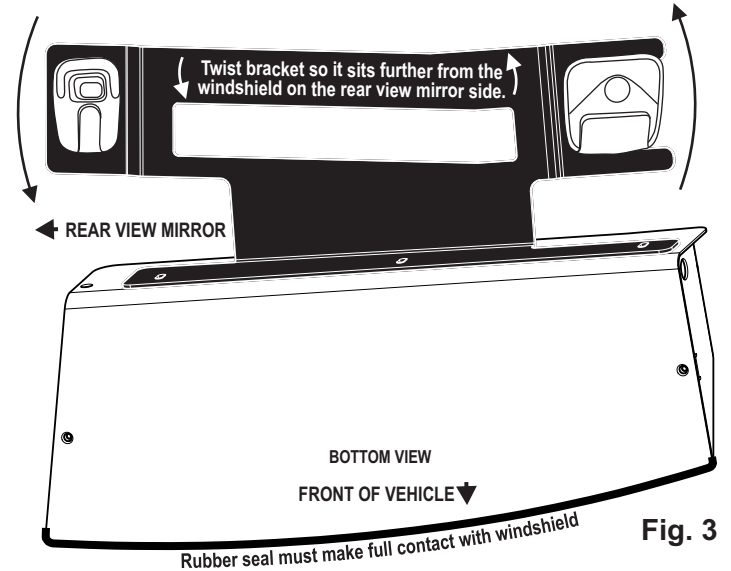

Fig. 3
4. Secure the mounting bracket to the lightbar and position the bracket where it will mount on the vehicle (Figs. 3 & 4).
6. Line the rectangular hole in the other end of the lightbar bracket, up with the **visor clip** and install the visor clip over the lightbar bracket using the supplied #8 X 1" Sheet Metal Screw (Fig. 3).
3. Replace the vehicle clip mounting screw near the rear view mirror with the supplied 8 X 1" Phillips Pan Head Sheet Metal Screw (Fig. 1). Loosely mount the bracket to the vehicle and pivot the bracket so the side near the mirror is further from the windshield (Fig. 3). With the bracket in place tighten the mounting hardware.